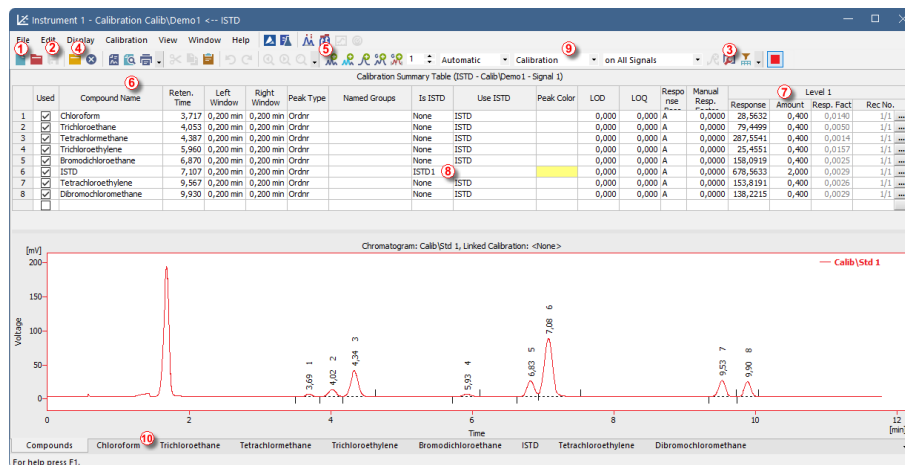

Fig. 17: The Calibration window - loaded standard
- Overlay* toolbar  ③, where it is marked with a debossed icon ; and finally, by noting the color of the graph outline and table headers. Try to change the active signal by double clicking on its name in the legend section. You will notice that the **Result table** has changed.
- You can change the integration of peaks using the interactive icons on the toolbars on the left side of the *Chromatogram* window  ④ or directly in the *Integration* tab  ⑤. Any changes made either way will change the **Integration table** and can be copied to the template method.
- To add color to a peak permanently, click the *View* button  ⑥ in the right side of the *Results* tab. This will get you to the linked calibration file. There, in the *Calibration Summary Table*, find the *Peak Color* column (see **Fig. 17** on pg. **28**). In the row corresponding to the peak to be colored, select the desired color by clicking in the field and selecting the  icon. Pick the desired color and click *OK*. You will be asked to save the changes upon closing the *Calibration* window. Return to the *Chromatogram* window by using the  icon in the menu bar. The selected peak is now colored according to the color selected in the *Calibration* window.
- Use the *Open Standard*  icon (yellow) ④ to open the STD 1.PRM data file. The lower part of the *Calibration* window now displays the chromatogram of the calibration standard.
- Use the *Add All*  icon (blue) ⑤ to move all identified peaks to the Calibration Summary Table. The Table appears in the *Calibration* window, ready to be completed as shown on **Fig. 17** on pg. 28.
- As demonstrated in the Calibration Summary Table and the Chromatogram, individual peaks are now identified according to their retention times only. To label the peaks, click and edit the fields in the *Compound Name* column ⑥ to the names shown on **Fig. 17** on pg. 28. You may also set the color of a specific peak in the *Peak Color* column, for example, try to set the ISTD peak color to yellow. Note that the changes made will not immediately affect the current chromatogram.
- Fill the *Amount* column ⑦ with the concentration of the particular compounds. In this standard mixture, all compounds except for the peak number 6 (ISTD) have the amount of 0.4.
- Peak number 6 is marked as the ISTD peak. In the *Is ISTD* column change its type to ISTD1 ⑧ and then set its amount in the *Amount* column to 2.